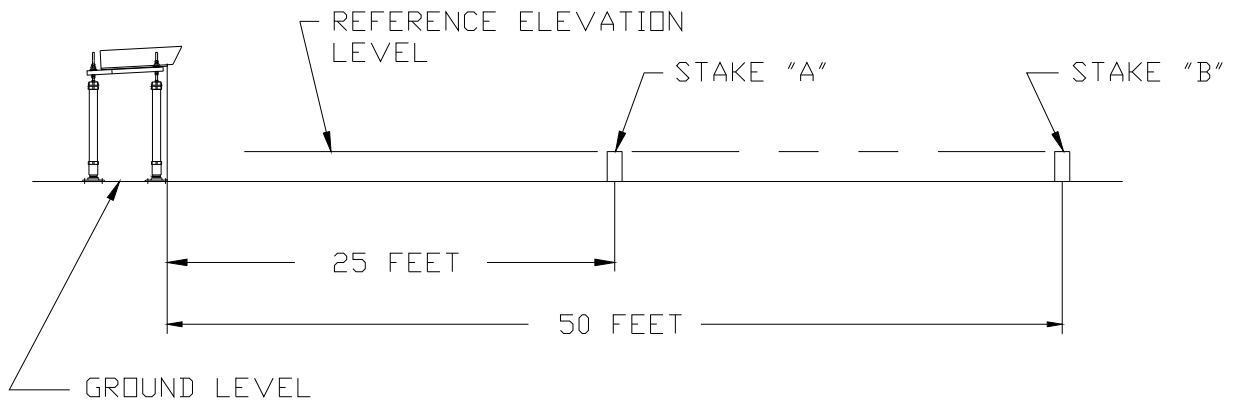

FIGURE 1
- A1. Locate a point (A) 25 ft. and another point (B) 50 ft. in front of each PAPI unit. Each PAPI unit will have either two or three projectors. See Figure 1.
- A2. At each location, drive a stake into the ground. Use a transit to align the top of each stake to the same level. The stake tops should be no higher than the PAPI mounting height. See Figure 1.